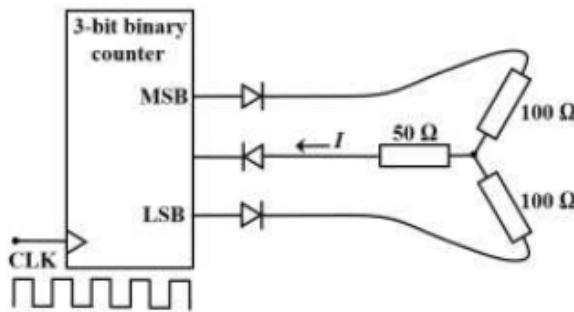

Fig. 5.4
4. For the 3-bit binary counter shown in Fig. 5.4, the output increments at every positive transition in the clock (CLK). Assume ideal diodes and the starting state of the counter as 000. If output high is 1V and output low is 0V, find the current  $I$  (in mA) flowing through the  $50\Omega$  resistor during the 5th clock cycle (up to one decimal place). (GATE IN 2018)